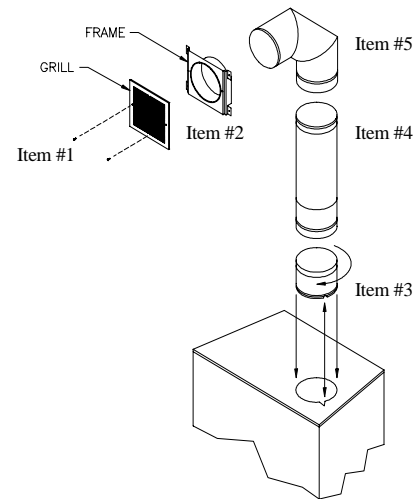

FIGURE 17: HOT AIR DUCT KIT
Only the IN-7000GDK hot air duct kit is authorized for use with the Inglenook Fireplace: Double hot air outlet kit: (See Figure 17)
- 2 grill covers, Figure 17, item #1
- 2 grill boxes, Figure 17, item #2
- 2 starter adapters, Figure 17, item #3
- 8 Inch inside diameter pipe, Figure 17, item #4
- 90-degree elbows, Figure 17, item #5